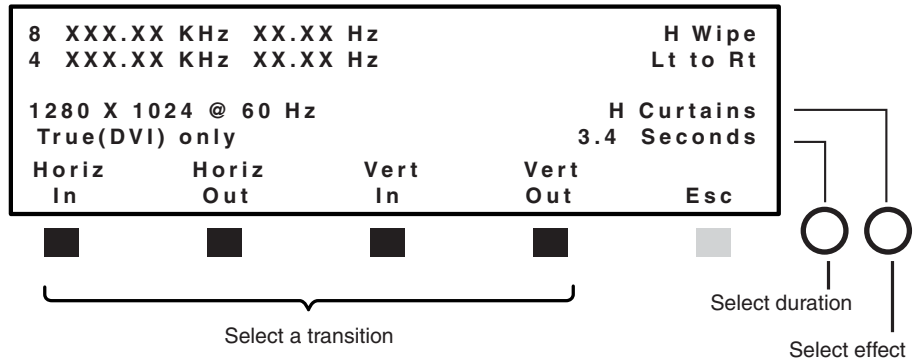

Figure 3-42 — Setting up the H curtains effect
- H curtains (hard curtains wipe, figure 3-42)